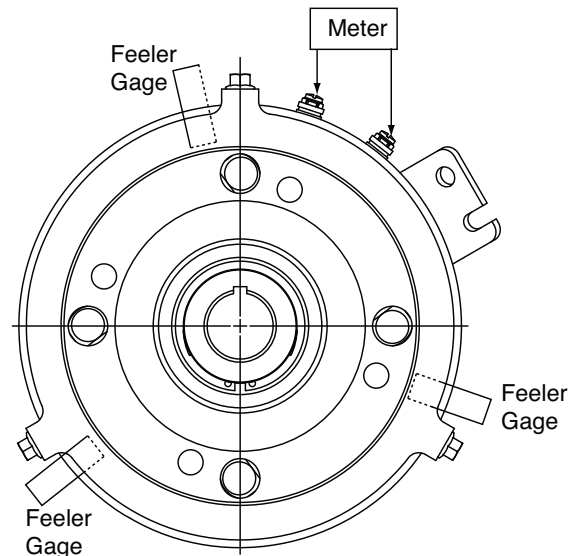

Figure 1
2. Loosen but do not remove the three brake mounting screws. Insert a 0.015" feeler gauge or equivalent thickness shim stock at each screw location being careful to locate the gauge between the armature and brake ring. (Figure 1 and 2)
4. Connect meter lead wires to the terminals of the clutch(Figure 1)